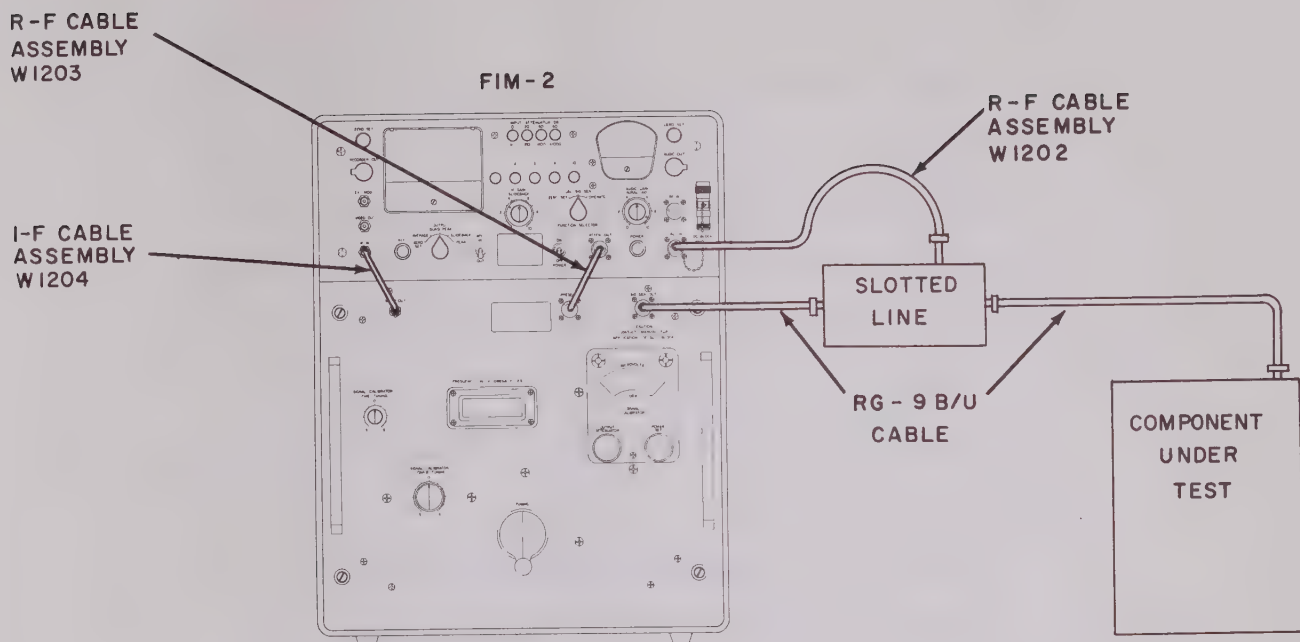

Figure 2-15. VSWR Measurements Using Receiver Section of FIM-2, Equipment Set Up
- a. Connect the input of the slotted line to the SIG GEN OUT jack, as shown in figure 2-15.
- b. Connect the output of the slotted line to the microwave component under test, as shown in figure 2-15.
- c. Connect the slotted line probe output to the CAL IN jack, as shown in figure 2-15.